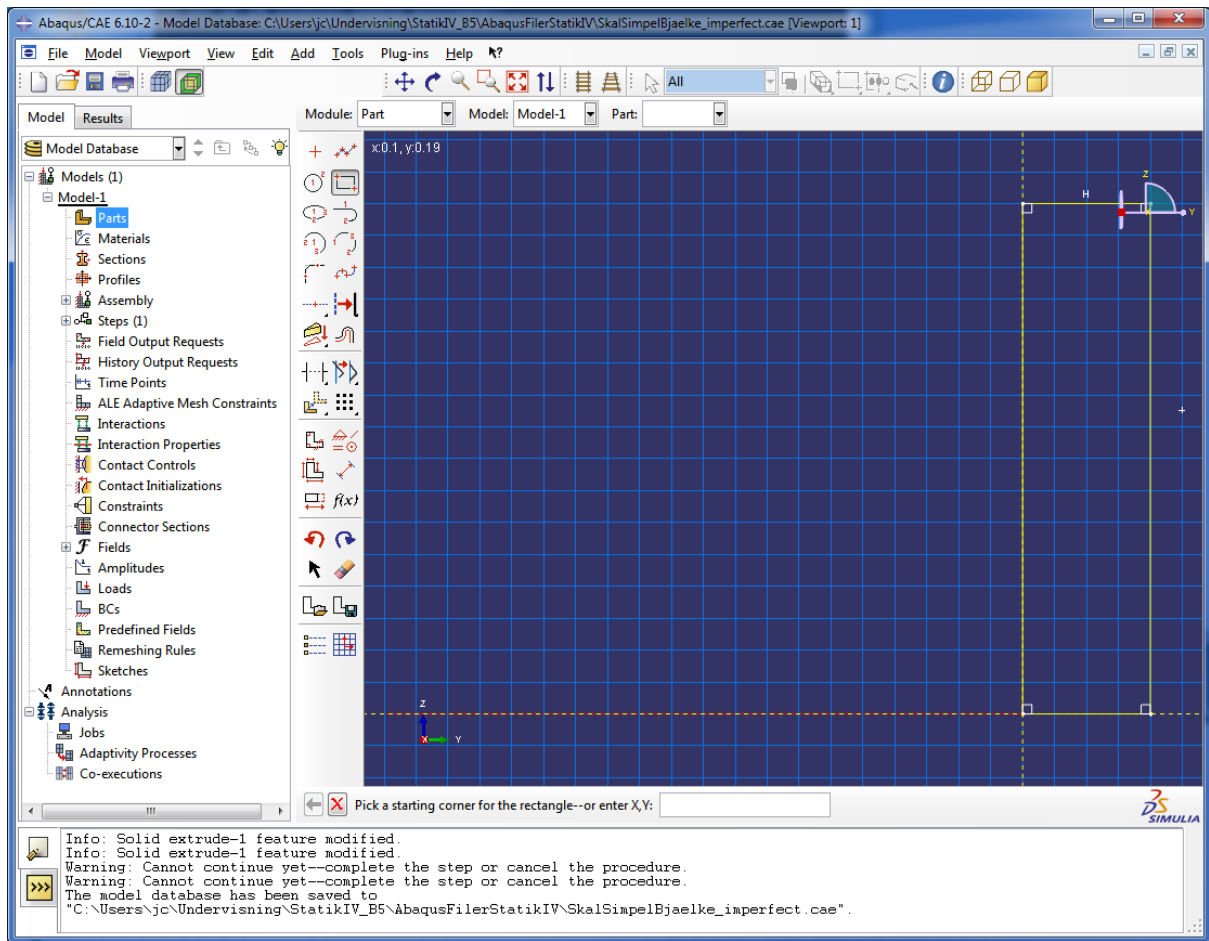

Figure 3 Sketch of the rectangular cross section of the solid profile.
- f. Create a rectangle using the **Create Lines: Rectangle** tool. The rectangle should have the dimensions 0.08 x 0.32. This can be achieved by typing 0,0 as the starting point and 0.08,0.32 as the end point in the input box below the window. If the rectangle is outside the window you can click the Auto-Fit view button on the top menu bar. After this your view should resemble Figure 3.